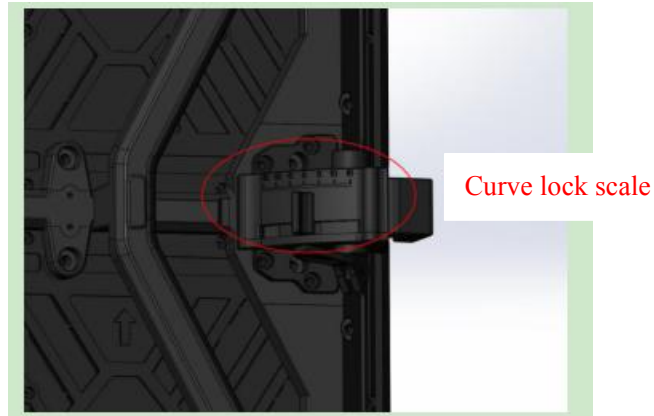

Figure 3.28 Choose radian
(1) Adjust the gear slider and select radian according to site requirements, as shown in Figure 3.28: